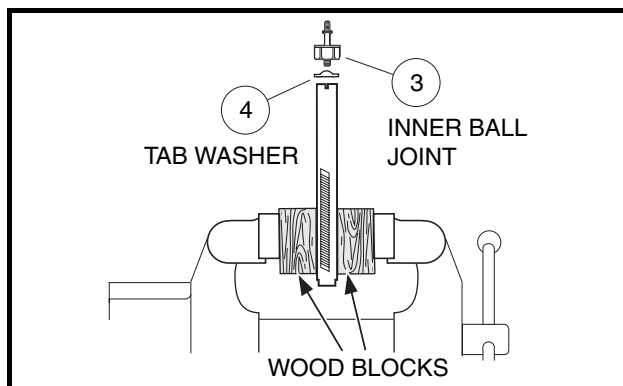

Figure 7-11 Secure Rack in Vise
13. If the inner ball joint (3) is excessively worn, remove the ball joint and tab washer (4) from the rack (**Figure 7-11, Page 7-9**).
13.1. Secure the rack in a vise using wood blocks between the rack and the jaws of the vise to protect the rack from damage (**Figure 7-11, Page 7-9**).
1. Install a new tab washer (4) and an inner ball joint (3) (**Figure 7-11, Page 7-9**). Install the ball joint onto the rack by securing the rack in a vise using wood blocks between the rack and the jaws of the vise to protect the rack from damage. Tighten the ball joint to 60 ft-lb (81 N·m).
2. Bend the edges of the tab washer (4) up against the ball joint (3) (**Figure 7-11, Page 7-9**).